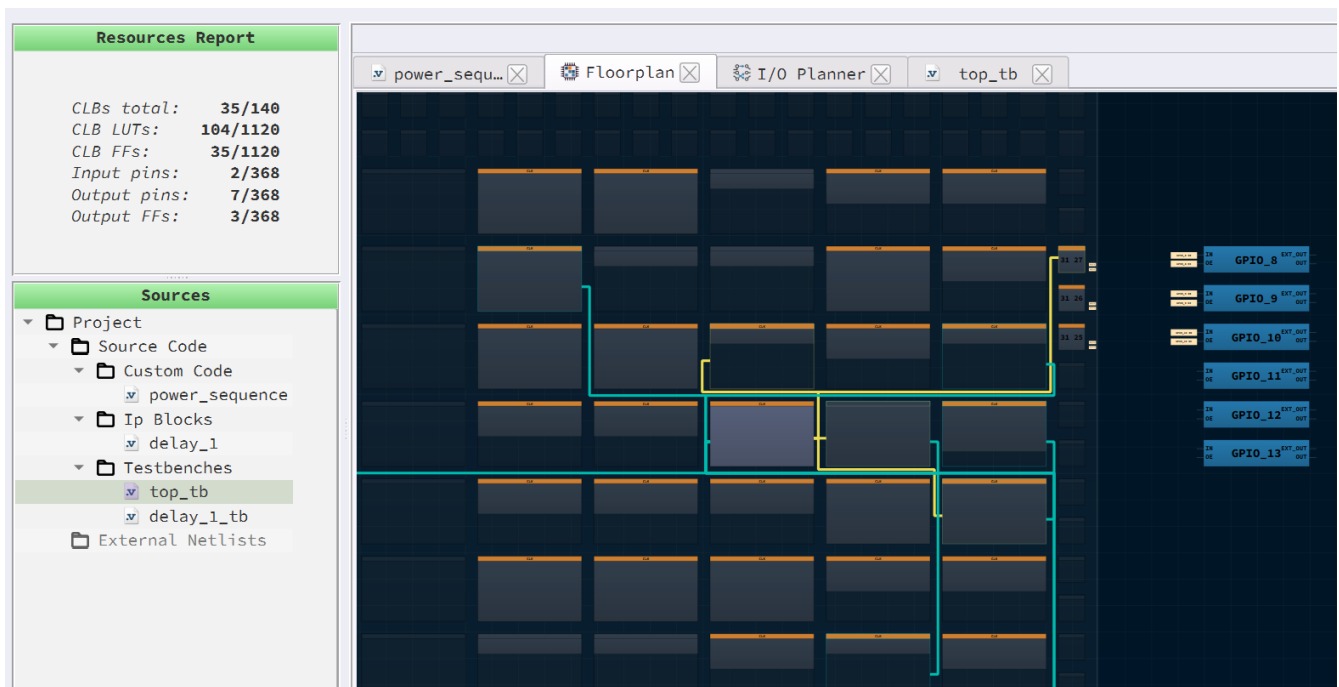

Figure 5: CLB Utilization
7. Now click on the Floorplan tab and see the CLB utilization (Figure 5). Press the Ctrl and the mouse wheel to zoom-in. Confirm that the IOs selected in the IO Planner are shown in the floorplan.